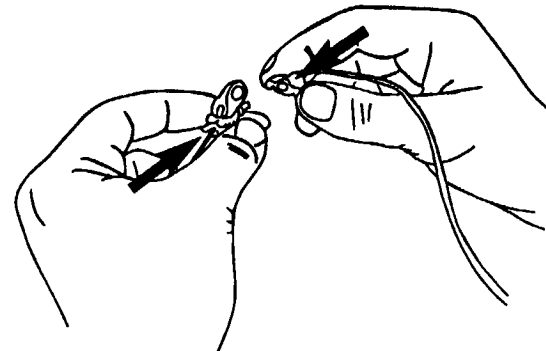

FIGURE 4: Connect Sensor Assembly to the Sensor Connector
Step 3. Fasten the Sensor Assembly to the Cable. Grasp the Sensor Assembly Base between the thumb and forefinger. Hold the Sensor Connector in the other hand. Plug the Sensor Assembly into the Sensor Connector and press the parts together until the snap arms on the Sensor Assembly engage with a click (Figure 4).